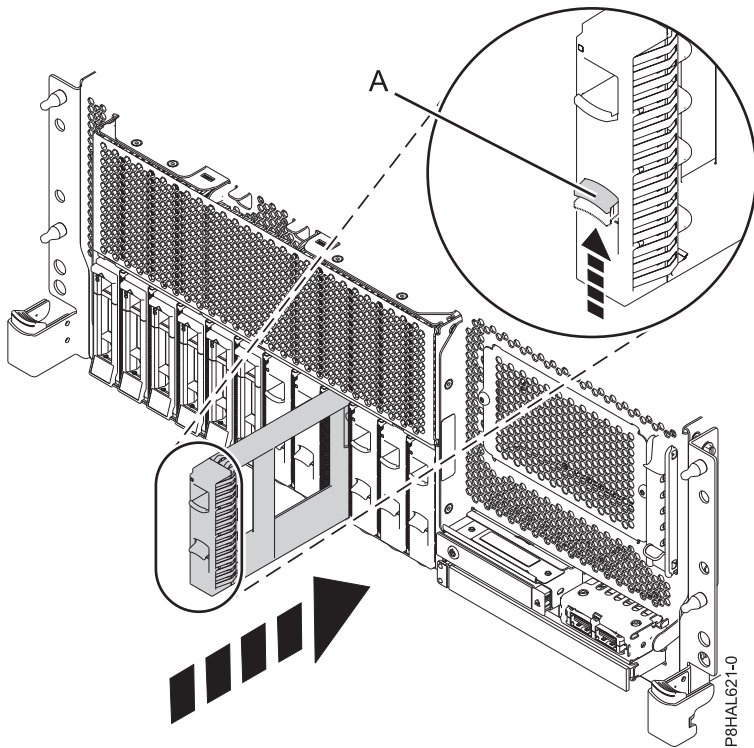
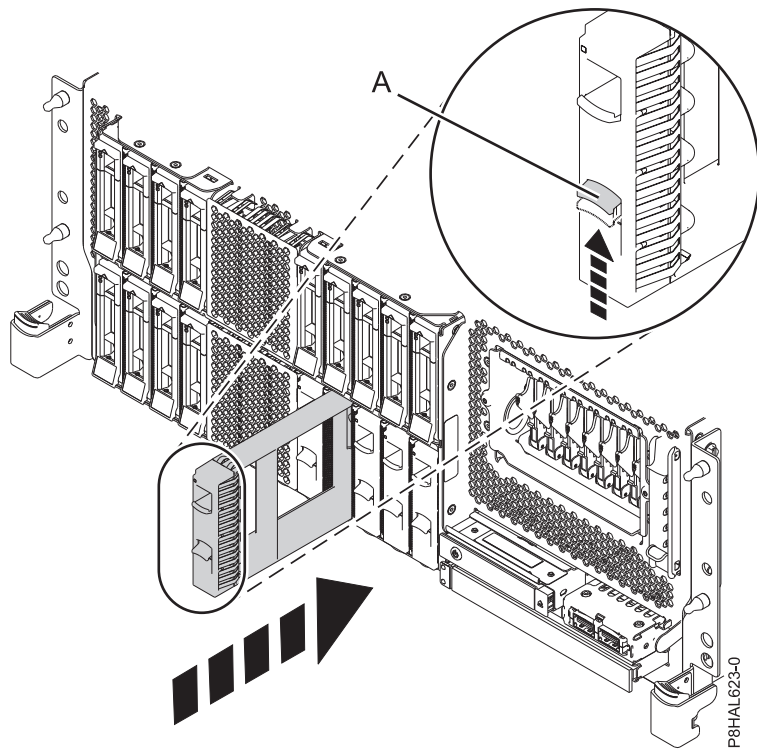

Figure 137. Installing a drive filler in a rack-mounted base function system
Figure 138. Installing a disk drive filler in a rack-mounted expanded function system
3. Align the disk drive filler with the drive slot and push the disk drive filler all the way into the system **(A)** until it locks, as shown in Figure 137, Figure 138 on page 147, Figure 139 on page 148, and Figure 140 on page 149.